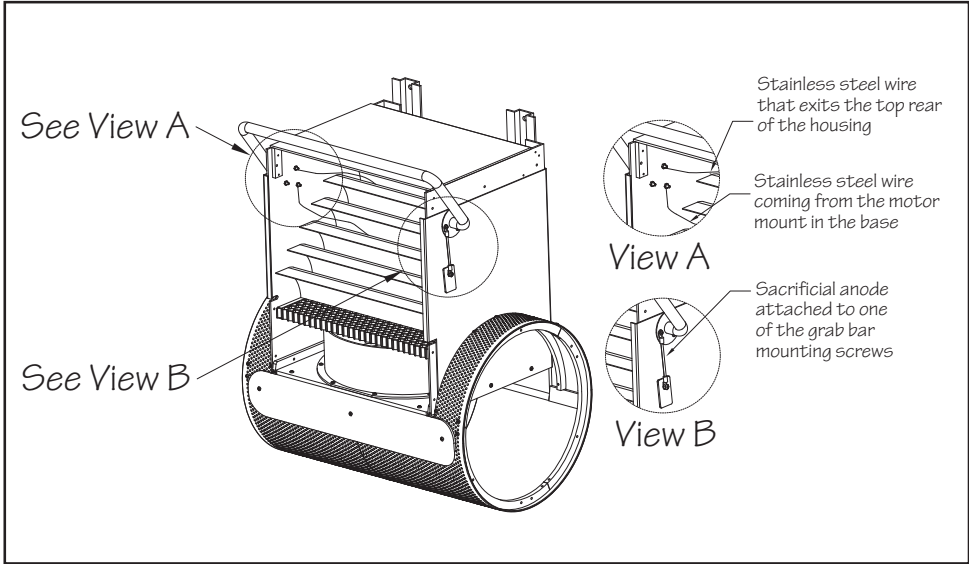

Fig. 6.8
6.10 Install the stainless steel grab bar to the upper housing using the provided stainless steel screws and lock nuts. Feed the stainless steel wire attached to the motor mount up through the horizontal grill. Then feed the wire up between two of the turning vanes. Place the stainless steel wire (from the motor mount in the base) around the bottom screw on the left side before tightening down on the nut. Place the second stainless steel wire (that exits the top rear of the upper housing) around another screw before tightening down on the nut. On the opposite side of the grab bar, secure the provided sacrificial anode under one of the grab bar mounting screws (Fig 6.8).